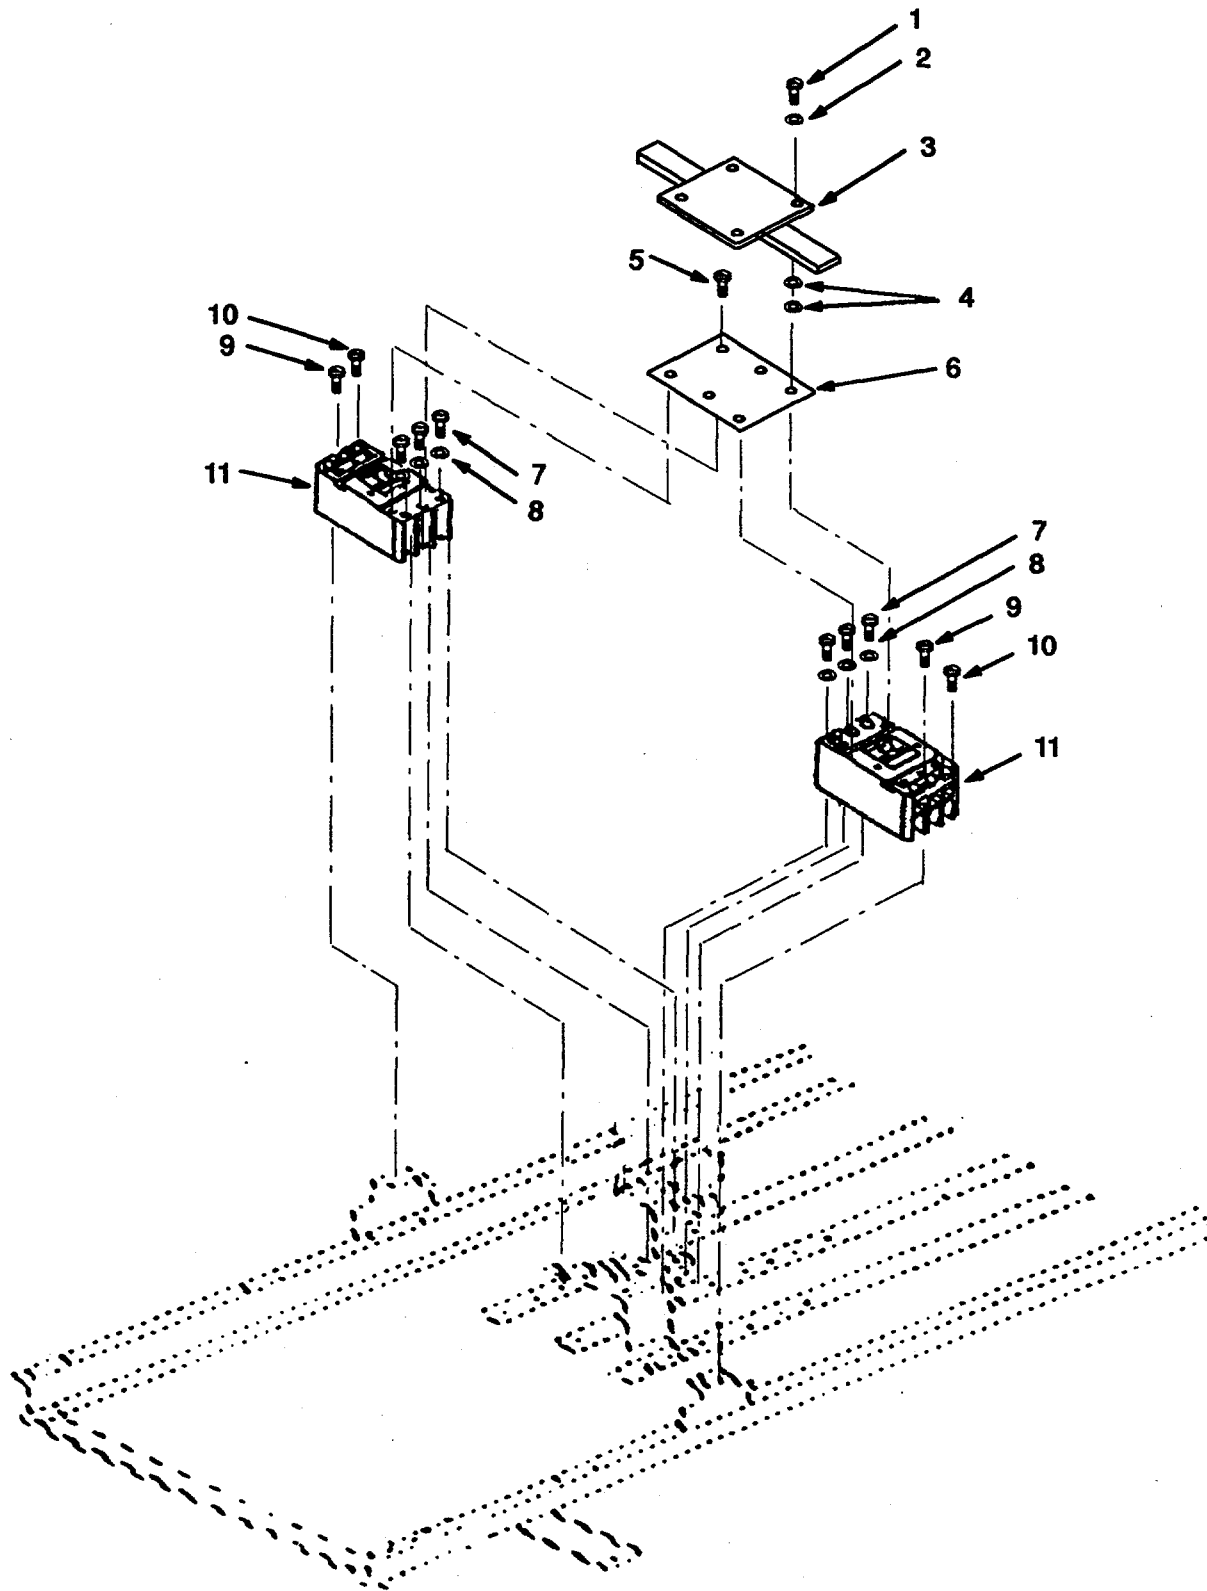

Figure 5-3. 400 Amp Circuit Breaker Assembly.
- a. Remove four screws (1, Figure 5-3), washers (2), and remove interlock (3), and eight washers (4).
- b. Remove four screws (5) and remove plate (6).
- d. Remove four screws (9).
- e. Remove six screws (7) and washers (8), and remove two 400-amp circuit breakers (11).